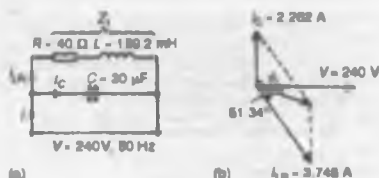

Figure 16.6
The circuit diagram is shown in Fig. 16.6(a).
$$\phi_1 = \tan^{-1} \frac{X_L}{R} = \tan^{-1} \frac{50}{40} \\ = \tan^{-1} 1.25 = 51.34^\circ \text{ lagging} \\ \text{(see phasor diagram in Fig. 16.6(b))}$$
(see phasor diagram of Fig. 16.6(b)).
- (c) The supply current I is the phasor sum of I_{LR} and I_C . This may be obtained by drawing the phasor diagram to scale and measuring the current I and its phase angle relative to V . (Current I will always be the diagonal of the parallelogram formed as in Fig. 16.6(b)).